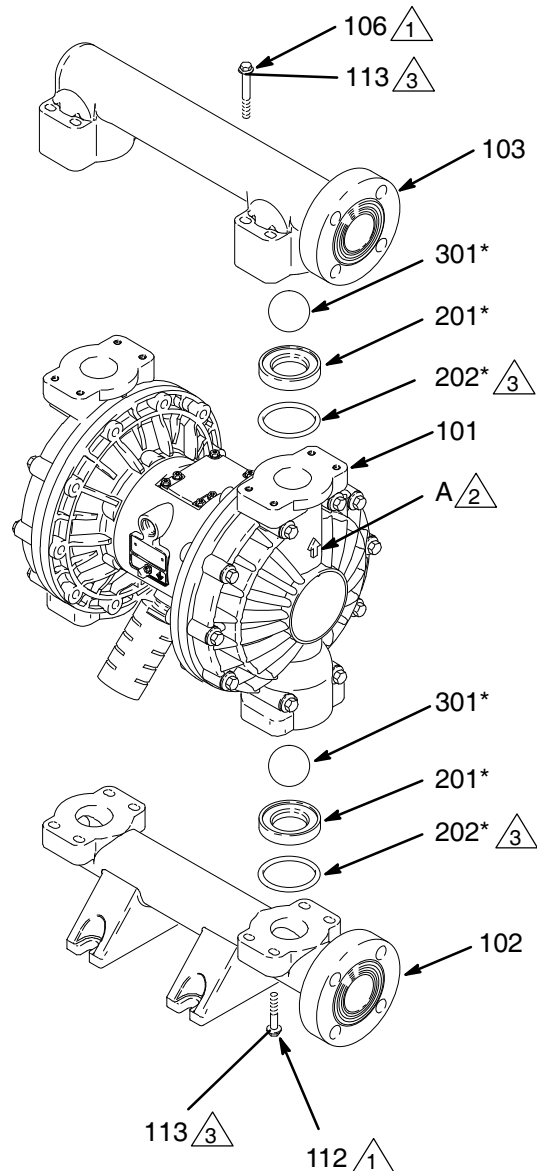

Fig. 11
3. Using a 10 mm socket wrench, remove the eight bolts (106) and washers (113) holding the outlet manifold (103) to the fluid covers (101). See Fig. 11.
4. Remove the seats (201), balls (301), and O-rings (202) from the manifold.
2. Reassemble in the reverse order, following all notes in Fig. 11. Be sure the ball checks are assembled **exactly** as shown. The arrows (A) on the fluid covers (101) **must** point toward the outlet manifold (103).